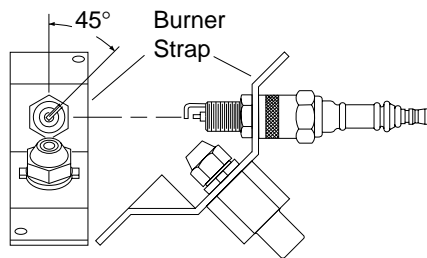

Figure 19 - Spark Plug Rotation, 35/50/55,000 BTU/Hr Models Only
5. Remove two (2) screws using 5/16" nut-driver and remove burner strap.
10. Replace burner strap onto spark plug. Rotate burner strap to position spark plug electrodes (see Figure 19, page 12).